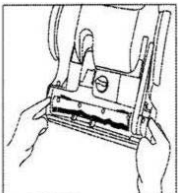

Fig. 2
- Remove the two screws from the bottom of the motorized power head. (Fig. 2)